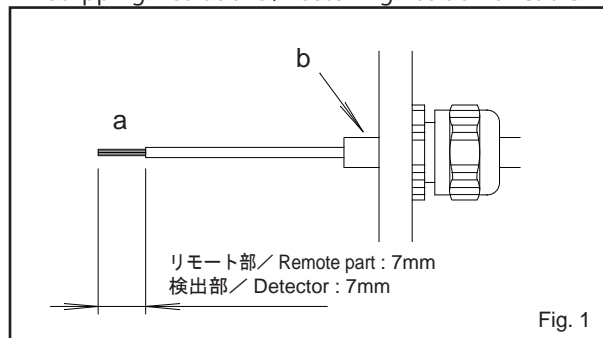
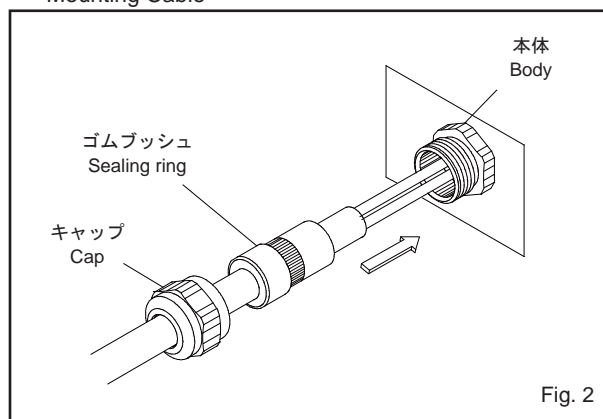

Fig. 1
Fig. 2
#### ● ケーブルの処理／固定位置 (Fig. 1-a / 1-b)
#### ● ケーブルの取付 (Fig. 2)
- Measure of Stripping Insulations/ Fastening Position of Cable <Fig. 1-a / 1-b>
- ① Strip outer sheaths of cables and insulations of cores.
- ② Make sure that outer sheath of cable is positioned inside of the Terminal Box properly in tightening cable.
- Mounting of Cable <fig. 2>